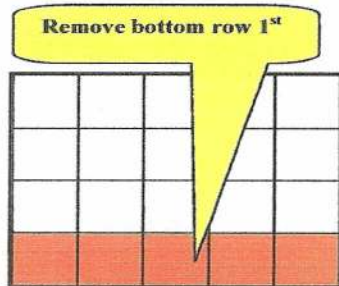

Figure 1
1. First, remove the bottom row of glass blocks by breaking the center of each block of glass and then knocking out the mortar joints (**Figure 1**).